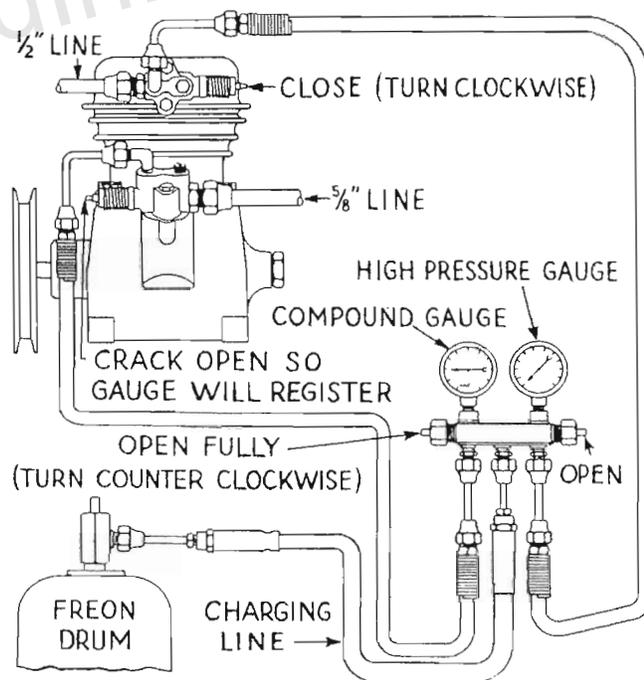

Fig. 6
1. Install gauges and adjust valves as shown in Fig. 6.
The Air Conditioning Service Instruction booklet, which was included as an insert in the Service Managers' copy of the April 15, 1941, Service Letter, has an error in Figure 6. We have corrected the illustration in the reprint of the entire page, which is included with this issue of the Service Letter.